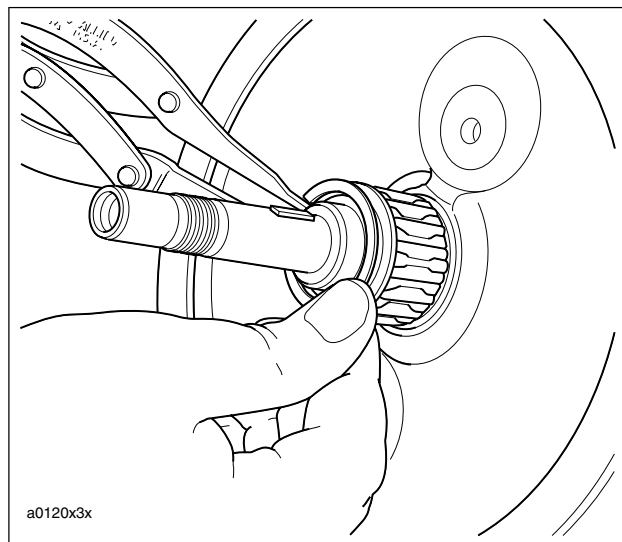

Figure 3-132. Pinion Shaft Bearing
12. See Figure 3-132. Install pinion shaft bearing.